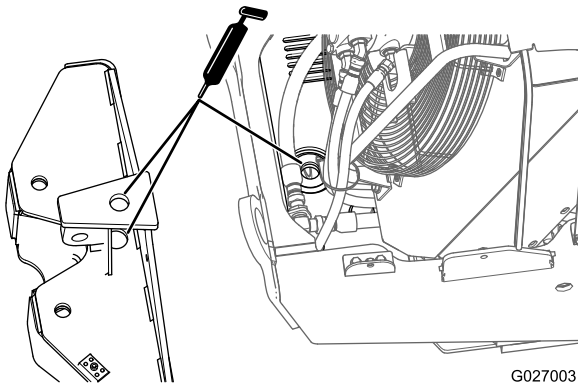
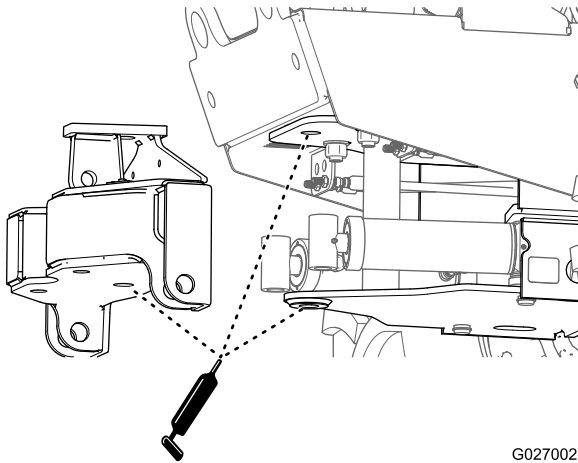

Figure 22
Figure 23
8. Apply a coat of the specified grease to the pivot pin and the pivot holes in the pivot frame and mounting frame (Figure 22 and Figure 23).